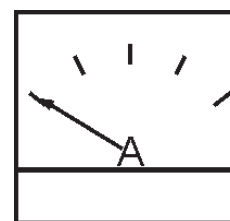

Figure 57. Ammeter (No Load)
13. The ammeter (Figure 57) will indicate zero amps with no load applied. When a load is applied, the ammeter will indicate the amount of current that the load is drawing from the generator.